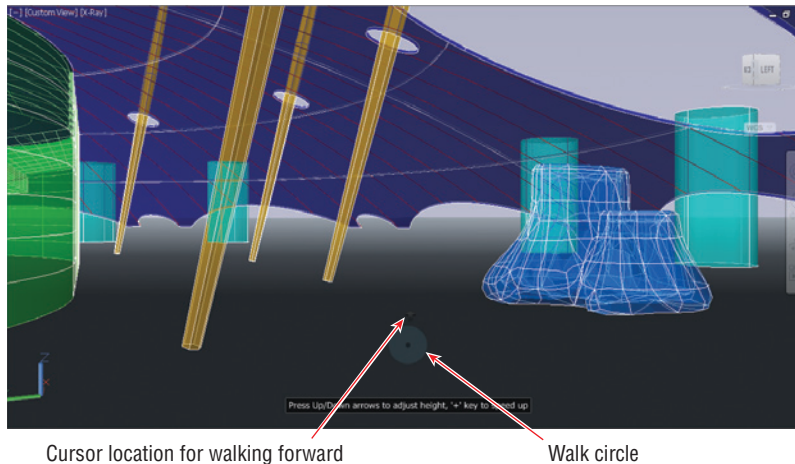

FIGURE 16.20 Walking under the dome
- Position the cursor over the Walk tool within the inner ring of the SteeringWheel. Click and hold the mouse button, and observe a walk circle appear in the lower portion of the drawing canvas. Drag the cursor relative to the walk circle to move in that direction (see Figure 16.20). The further from the walk circle you drag, the faster you walk in that direction. Release the mouse button.